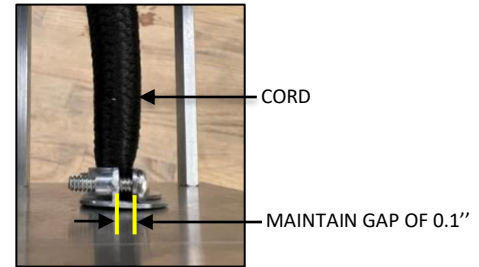

FIG. 31 – STRAIN RELIEF
26. Insert CORD through the STRAIN RELIEF and tighten two SCREWS on the STRAIN RELIEF above the all-thread where marked. If screws are not properly tightened CORD could slip; through the STRAIN RELIEF, causing the fixture to fall. see detail as shown in FIG.31.